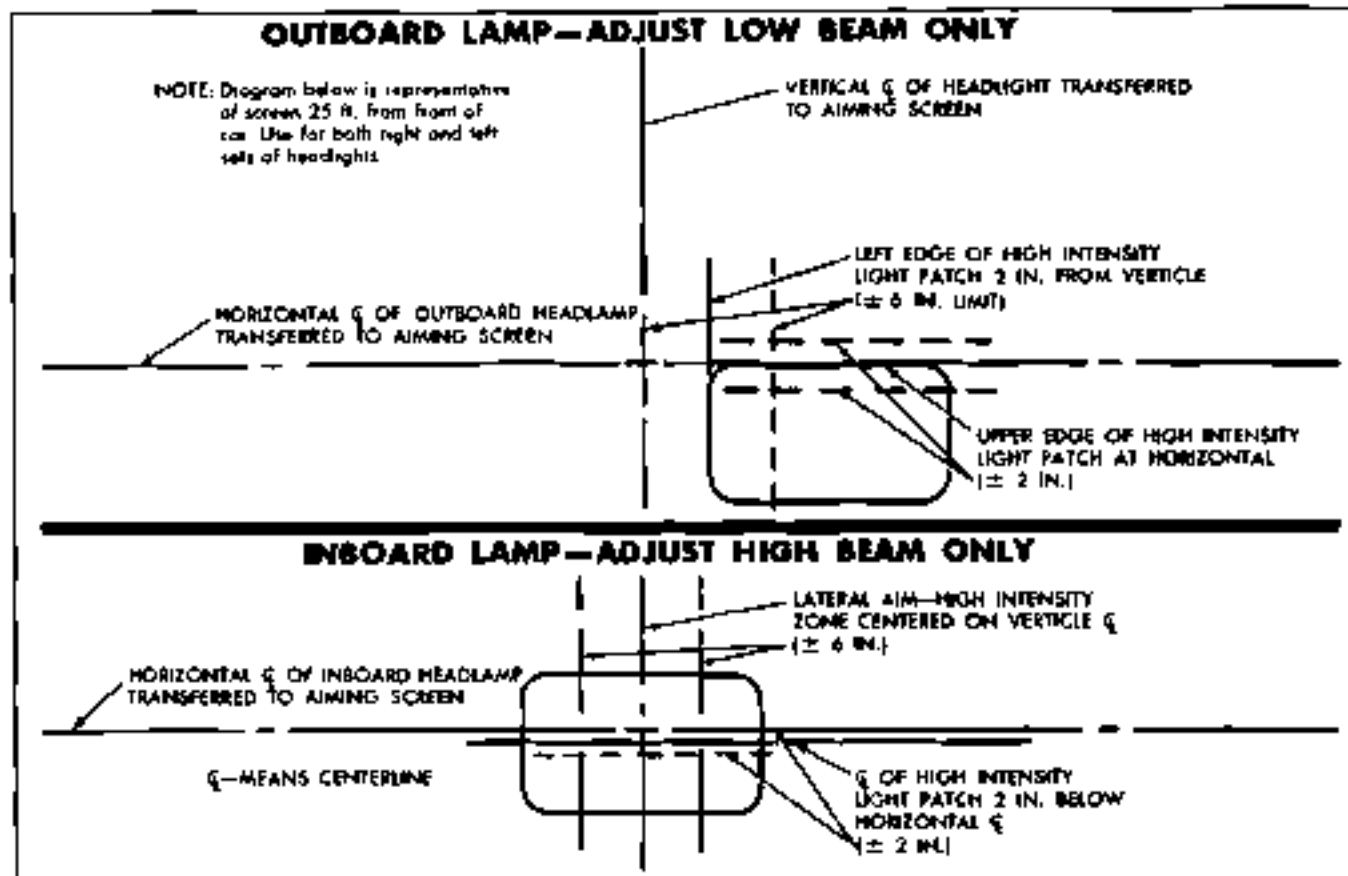

Fig. 12-25 Headlight Aiming Chart
5. Adjust headlights as shown in Fig. 12-25. If commercial aiming devices are used, follow manufacturer's instructions as well as local variations.